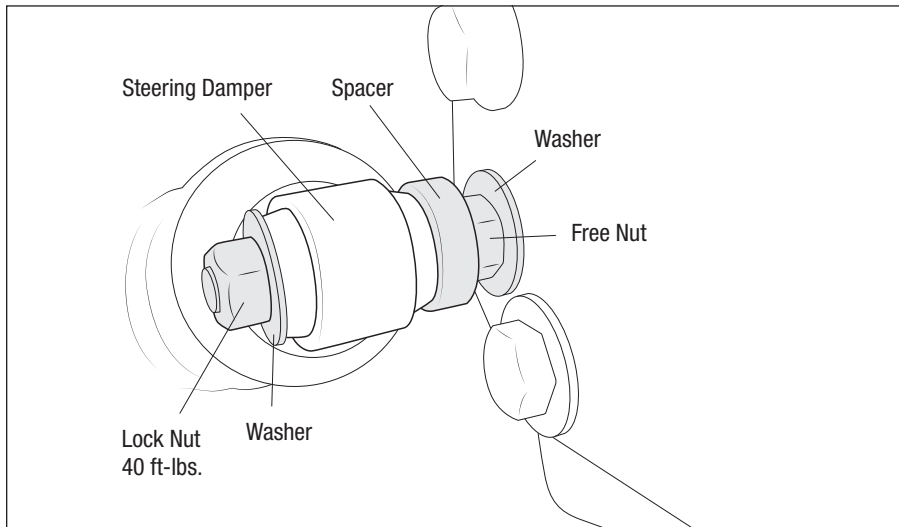

Figure 30
- B. Attach the damper to the new High Steer axle bracket orienting the hardware as shown (Fig. 30).